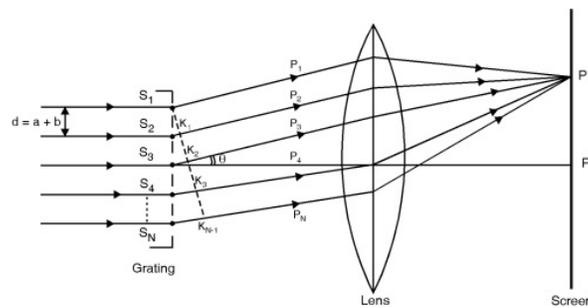

Fig. 3.7.1 : Plane Diffraction Grating
- Consider a plane transmission grating placed perpendicular to the plane of the paper as shown in Fig. 3.7.1.